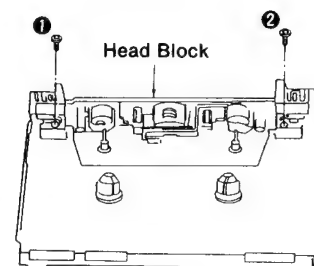

Fig. 4
3. Remove 2 screws (①, ②) in order to remove the head block. (See Fig. 4.)